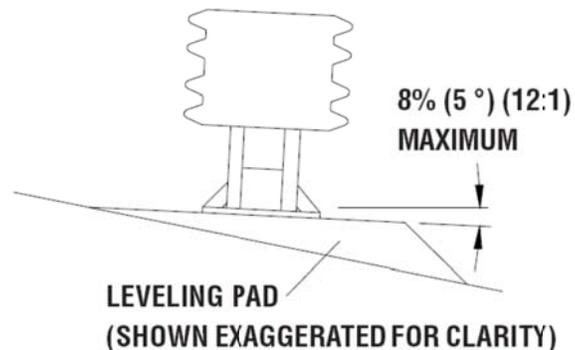

Figure 4
- 3) **Cross slope**– if there is a cross slope of more than 8% (5 deg.), or if the cross slope varies (twists) more than 2% (1 deg.) over the length of the system, a concrete leveling foundation may be required (See Figure 4).